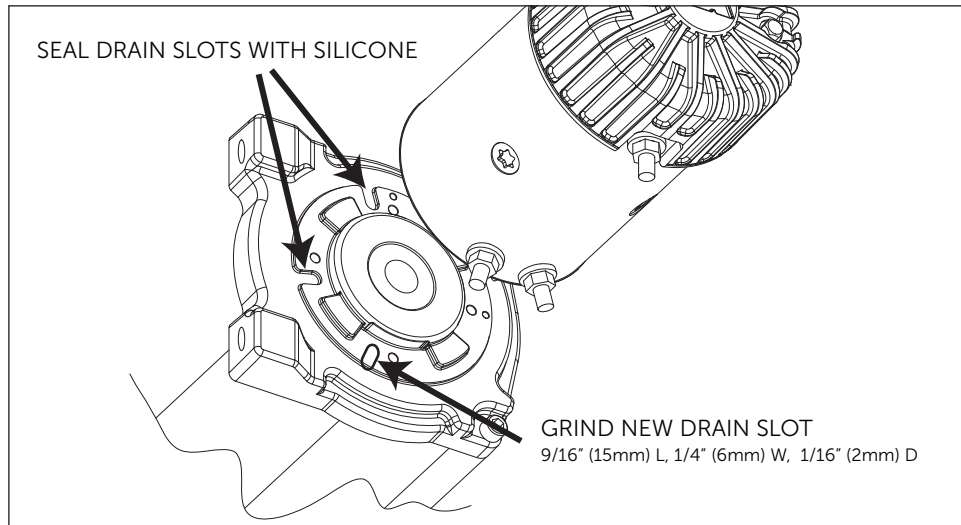

Figure 16
- A. You will need to mount the winch feet FORWARD as opposed to feet down. Remove the 10 screws from the end housing to remove the winch motor. It is recommended to grind a new drainage slot in the location shown (fig. 16). Seal the two original drain slots with silicone.